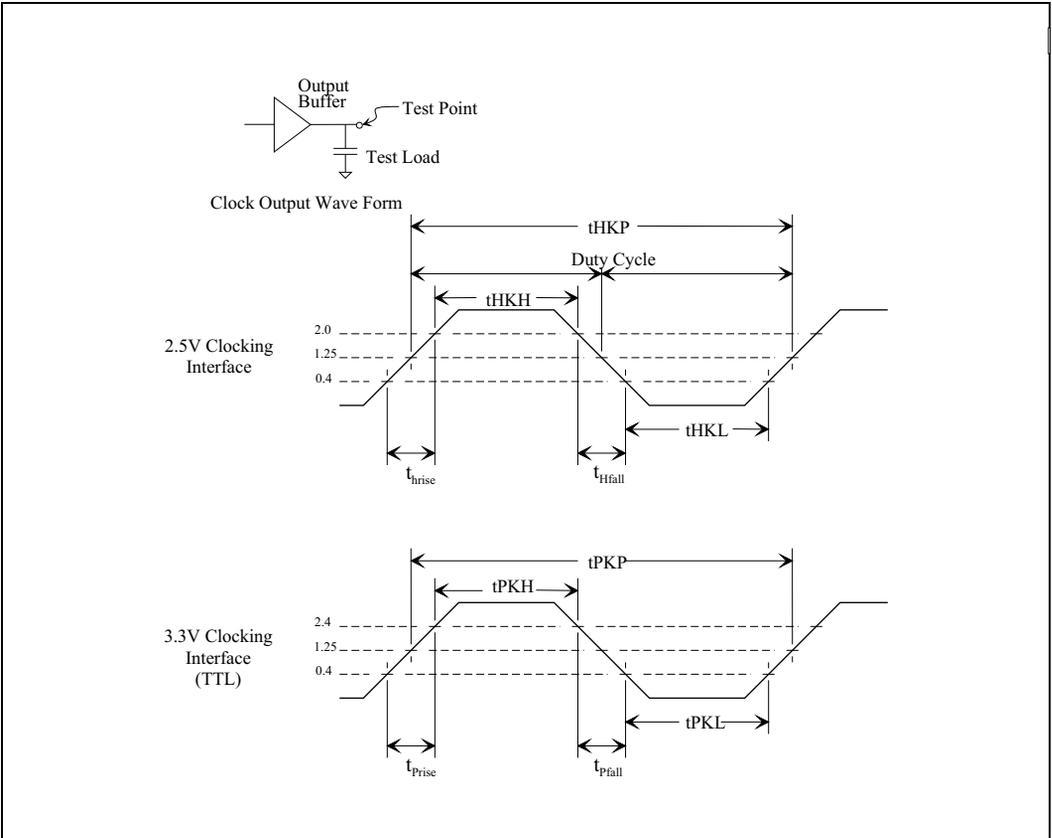

Figure 13. Clock Waveform
2. Output rise and fall time. See Figure 13 Clock Waveform for calculation / measurement information.
- tHKH is measured at 2.0V as shown in Figure 13.
- tHKL is measured at 0.4V as shown in Figure 13.